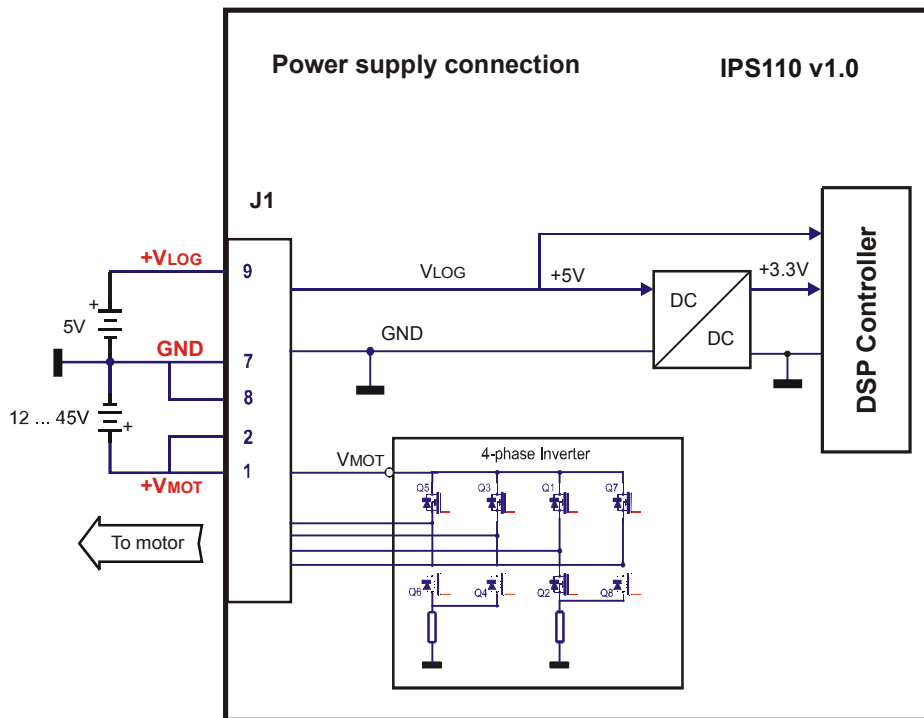
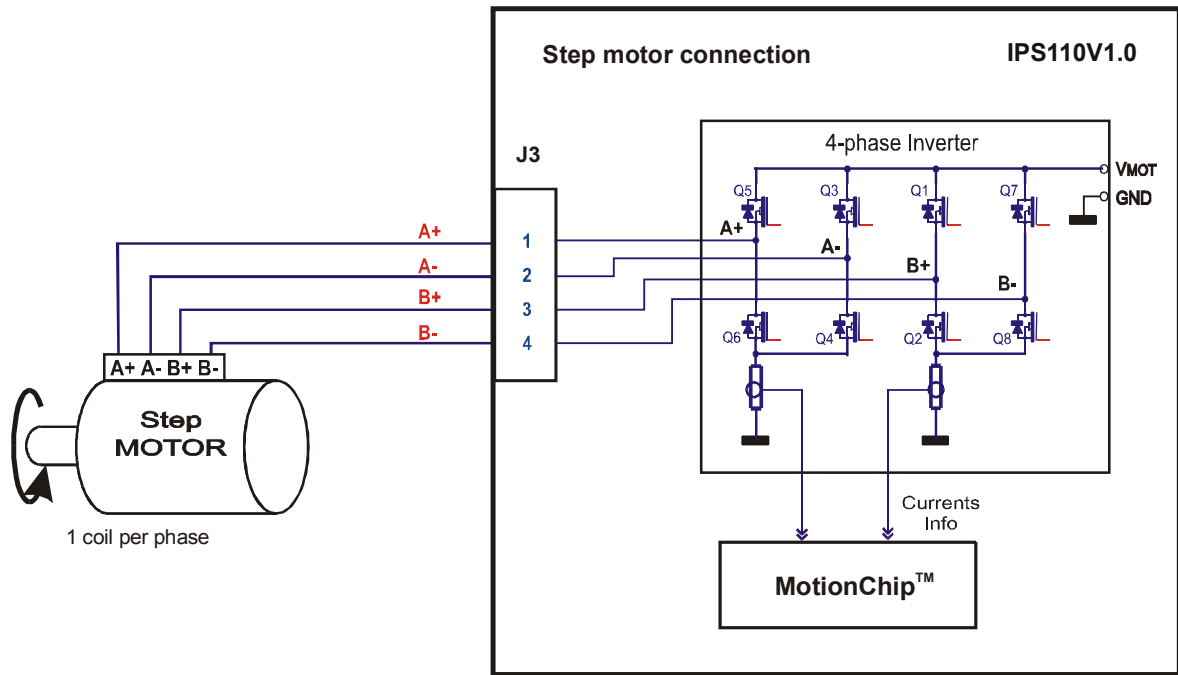

Figure 1. Power Supply – J1 Connector
Figure 2. Motor – J3 connector
1. Connect the power supply, the motor to the IPS110 drive as you can see in the Figure1 and Figure 2.